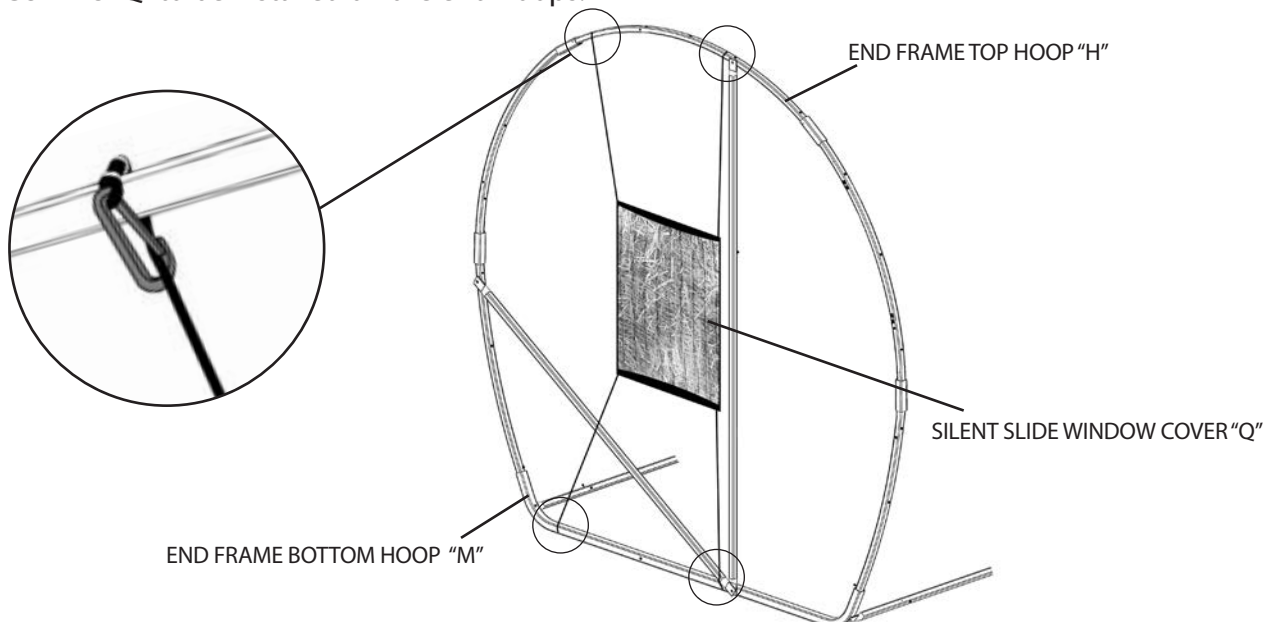

Figure 32.1
STEP 24: Locate (2) SILENT SLIDE WINDOW COVERS "Q" to be installed for the shooting window openings located on each end hoop . Starting at the top, attach each clip to the END FRAME TOP HOOP "H", then repeat the process for the bottom clips, attaching to the END FRAME BOTTOM HOOP "M", as illustrated in Figure 32.1. Perform this step for both SILENT SLIDE WINDOW COVERS "Q" to be installed on the end hoops.